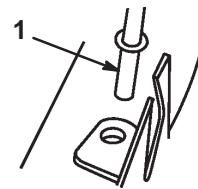

Figure 36
7. Insert the chute support rod through the hole in the right side of the deck (Fig. 36).